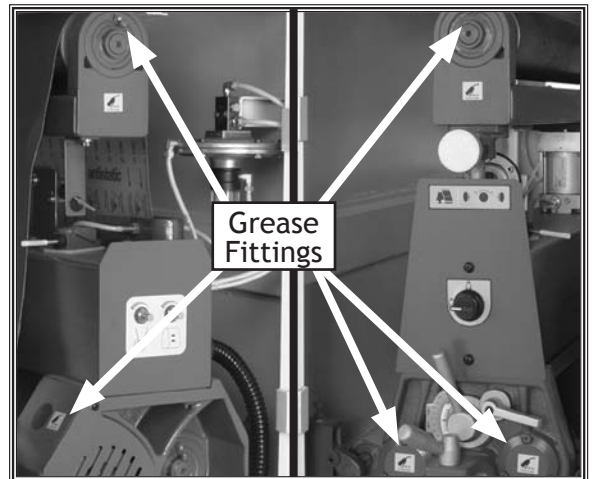

Figure 30. Left/right grease fitting locations.
- After every 150 hours of use, lubricate the bearings (Figure 30 & 31) with one squirt of automotive-grade grease at the designated points.